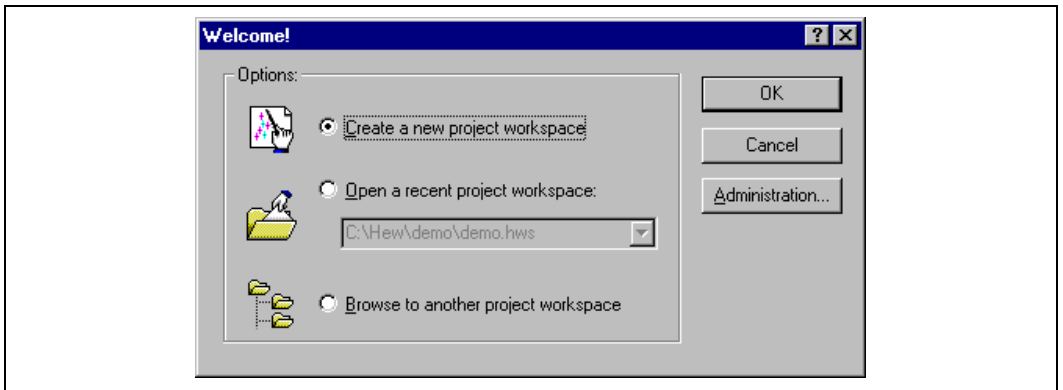
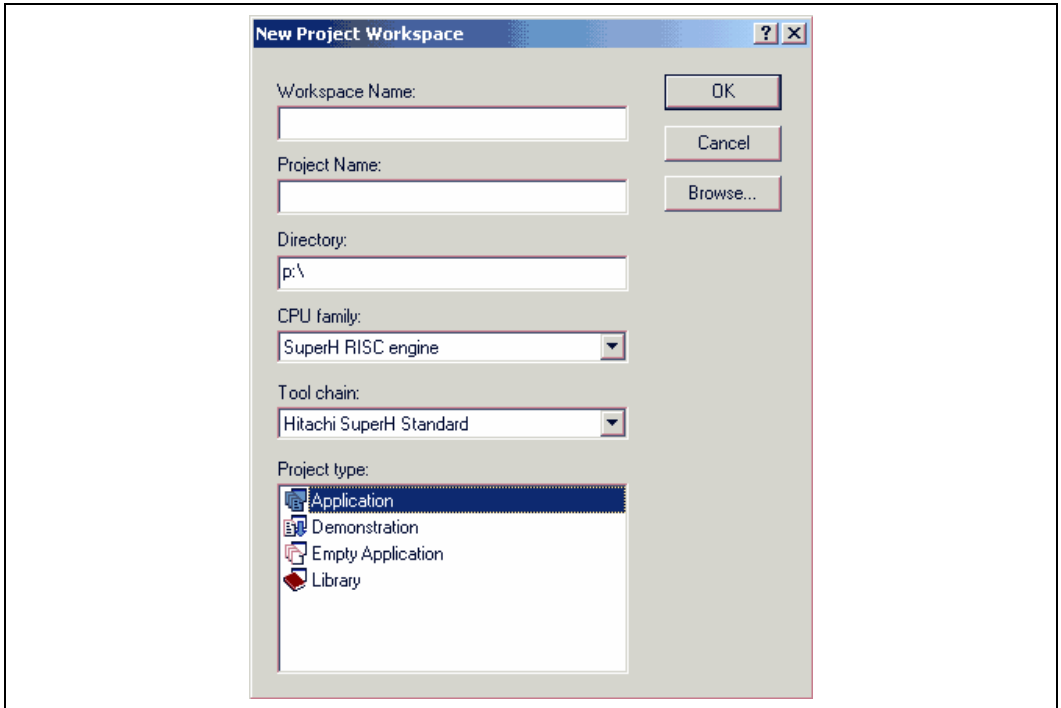

Figure 1.2 Welcome! Dialog Box
Figure 1.3 New Project Workspace Dialog Box
To initiate the HEW, open the [Start] menu of Windows®, select [Programs], select [Hitachi Embedded Workshop 2], and then select the shortcut of the HEW. The [Welcome!] dialog box shown in figure 1.2 will be displayed by default.
1. Select the [Create a new project workspace] option from the [Welcome!] dialog box (figure 1.2) and click the [OK] button or select [File -> New Workspace...]. The [New Project Workspace] dialog box will be displayed (figure 1.3).
1. Select [Browse to another project workspace] option from the [Welcome!] dialog box (figure 1.2) and click the [OK] button or select [File -> Open Workspace...]. The [Open Project Workspace] dialog box will be displayed.